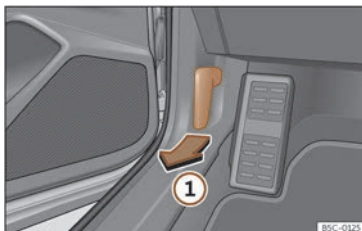

Fig. 155 Release lever in the driver's footwell area.
- Open the door and pull the lever under the dashboard»» **Fig. 155** ①.